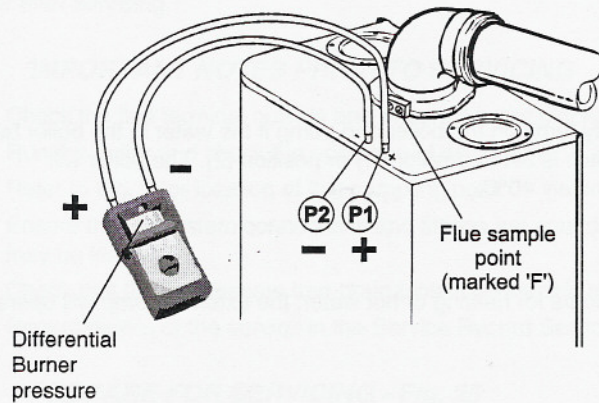

Fig. 23
5.5 CHECK THE BURNER PRESSURES - Figs. 23, 24
Turn the boiler off. Remove the two pressure test point screws at the top of the boiler and connect a differential pressure gauge to P1 and P2 as shown in Fig 23. Allow the boiler to run for 10 minutes and check the differential burner pressures.